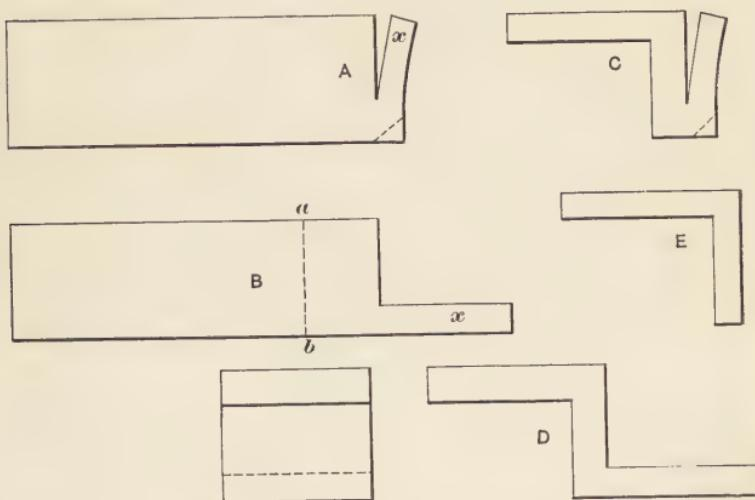

Fig. 44. Making a Double Angle.
**Making a Double Angle.**—Another troublesome job is to make a double angle from any flat stock over one half inch thick. To do this, take a square bar of the required size and cut as shown at *A*, Fig. 44, and cut off the corner at the dotted line. Then, with a set hammer drive down part *x*, getting the piece into the shape shown at *B*. Finally, cut off the right-hand end, along the dotted line *a b* and repeat the operation for the second angle, as indicated at *C*, thus getting a good, solid forging, like that shown at *D*, where the end view appears at the left and the side view at the right. Even if making a single angle, as at *E*, it is better to make it in this same way if above half an